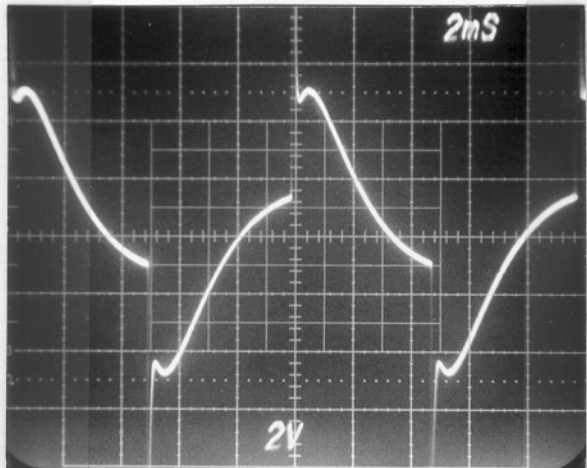

Fig. 15. Boost to 10.
- 1) Increase boost to 10- compare to Fig. 15. Turn to 0.
- 6) Compare output to Fig. 15. Disengage boost switch.